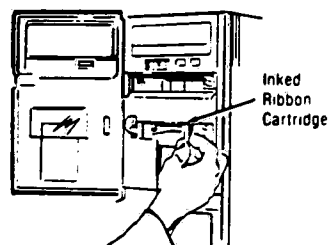

Figure 7-19. REMOVING INKED RIBBON CARTRIDGE.
7.10.4 Changing Inked Ribbon Cartridge (See Figure 7-19)